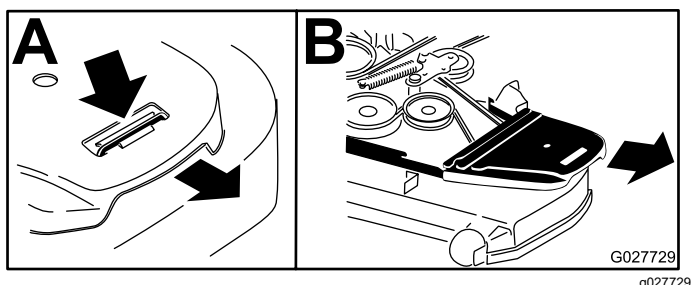

**Figure 98**
9. Rotate and ensure the belt-guide tab hits against the pivot hub (Figure 98).
10. Using the ratchet in the square hole, install the belt around the spring-loaded idler pulley (Figure 98). Seat the spring ends in the anchor grooves.
6. Use a ratchet in the square hole in the idler arm to remove tension on the idler spring (Figure 98).
8. Install the new belt around the mower pulleys and the clutch pulley under the engine (Figure 98).